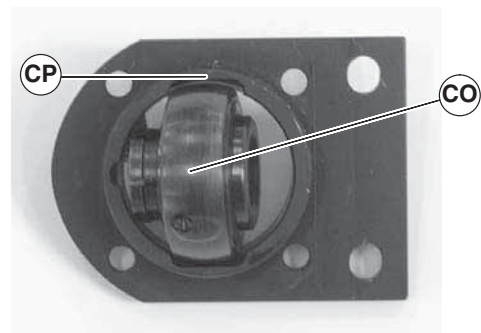

Figure 78
1. Turn bearing (Figure 78, item CO) to align with slots (CP) in bearing housing. Then remove bearing.